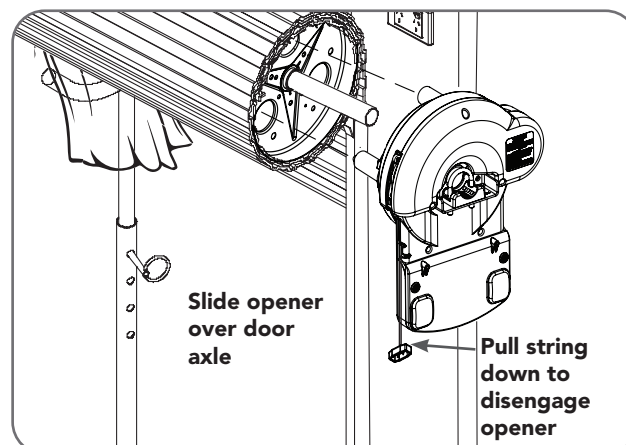

Fig. 6.5.3
- Slide the opener over the door axle and into the drum of the door as shown in Fig 6.5.3.